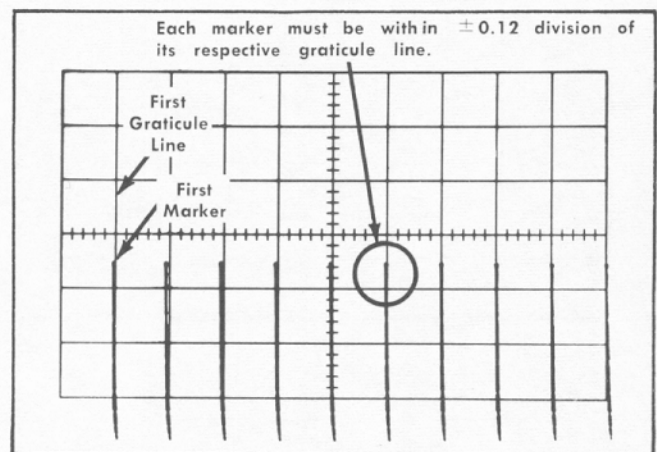

Fig. 6-47. Typical crt display when checking magnified linearity.
c. Check—Linearity of crt display between the first and ninth graticule lines is within tolerance of $\pm 1.5\%$ (± 0.12 division); see Fig. 6-47.
①